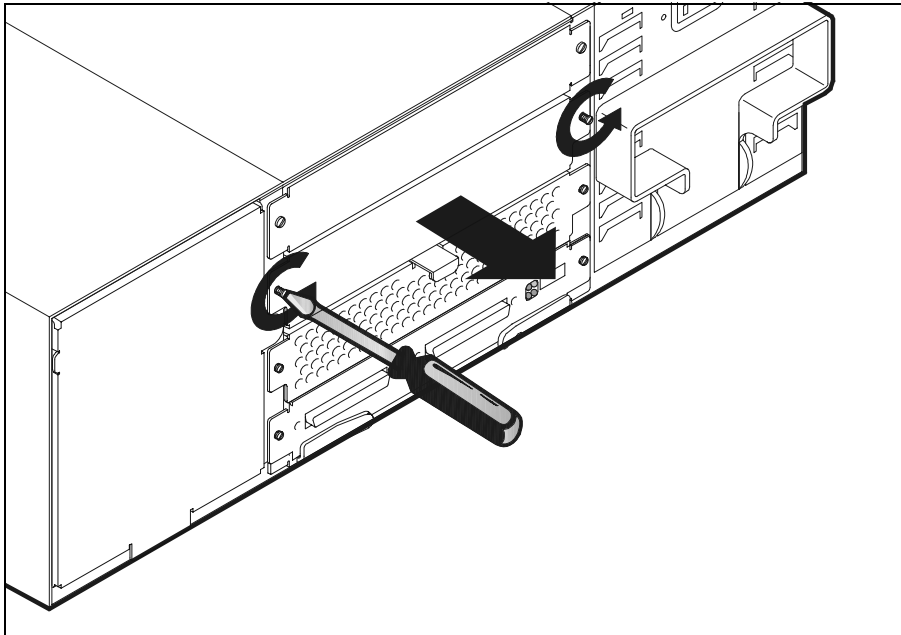

Figure 62 Removing Fan Filler Panel
1. Loosen the screws and remove the filler panel from the second slot from the top in the rear of the disk system (Figure 62).